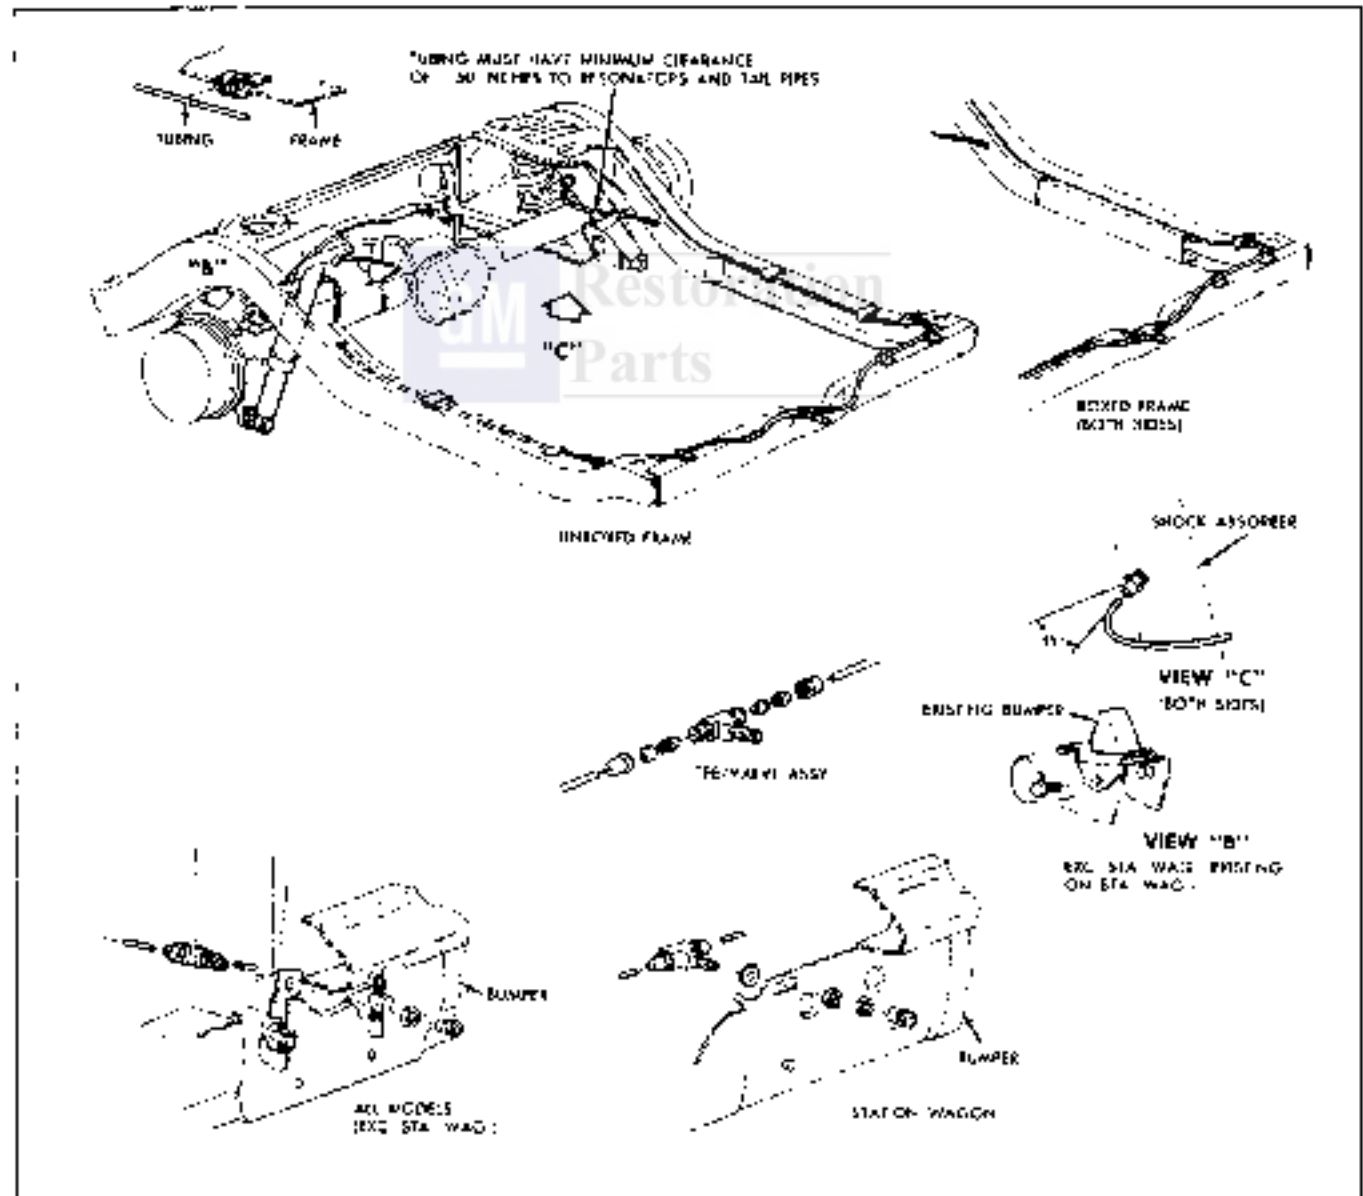

Fig. 4-17 Tempest Superlift Shocks
1. Remove diaphragm retainer with diagonal pliers and discard retainer (Fig. 4-17).